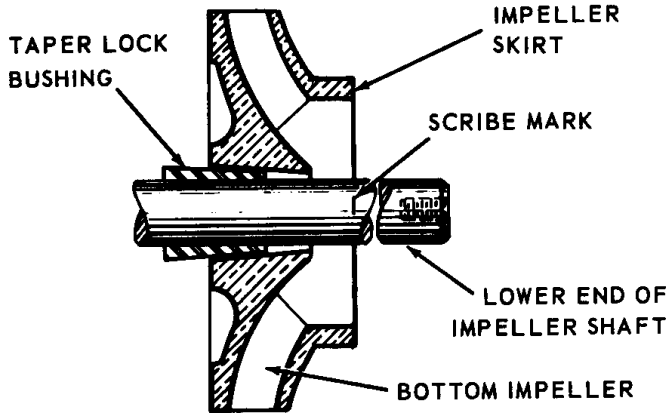
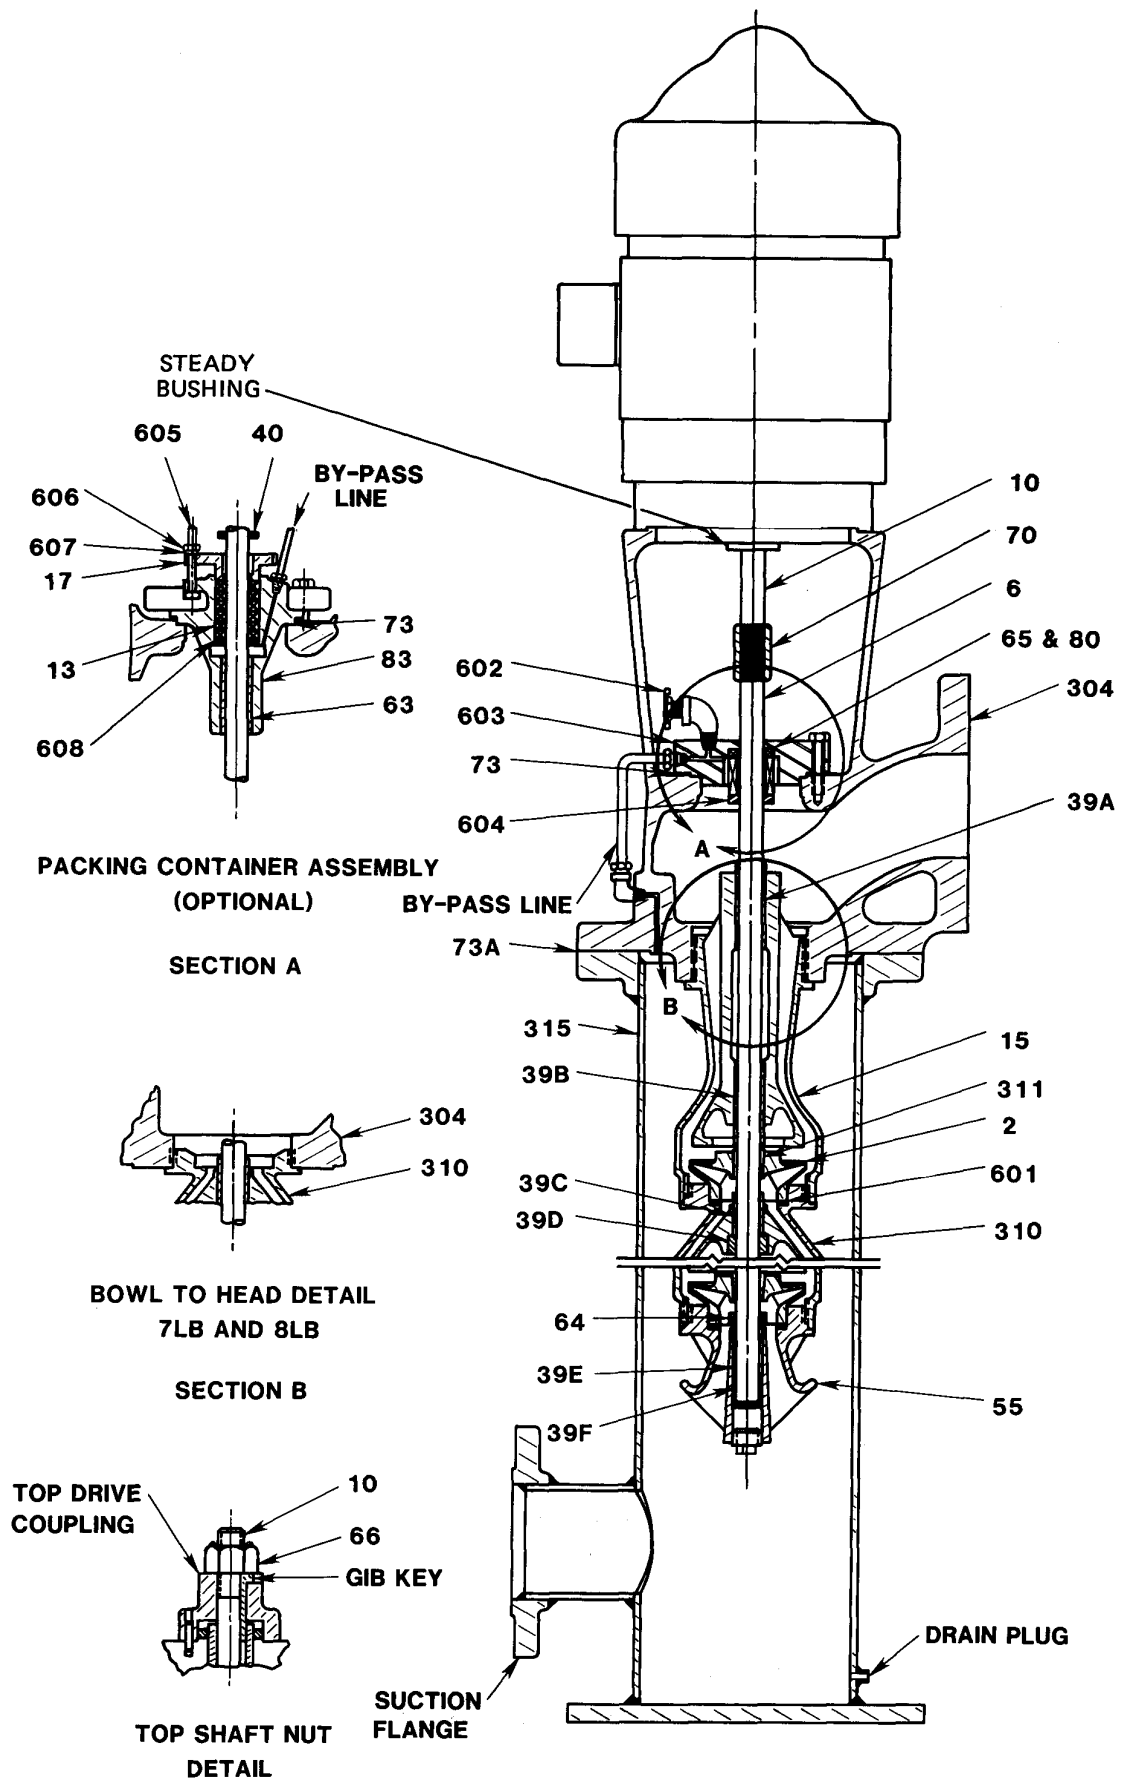

Figure 6. Location of Impeller
Figure 8 Pump Cross Section
2. Close the suction and discharge valves and remove the drain plug (Figure 8) from the can assembly (315).
4. Remove the locking screws. Take off the top nut (66), gib key and the top drive coupling.
5. Remove the top shaft (10) from the shaft coupling (70) by holding the coupling and turning the top shaft clockwise with pipe wrenches. Be careful not to bend the shaft.
8. If there is sufficient head room to remove the pump from the can assembly (315), unscrew the discharge head screws and bolts on the discharge flange and lift the pump assembly out of the can (315). If head room is not sufficient for this, remove the bolts from the suction flange and base of the can, and move the entire pump and can assembly to a suitable work area.
9. Unscrew shaft coupling (70) from the impeller shaft (6). As thread is left hand, turn clockwise to loosen.
10. VTP only: Remove the rubber deflector ring (40) packing gland (17) and packing (13). Disconnect and remove seal piping. Remove packing container (83) and gasket (73).
11. VTM only: Remove the four seal flange cap screws and lock washers and lift off the seal flange (603) with gasket (73) and stationary seal with o-rings intact. Carefully pull out the rotating seal head assembly.
12. Unbolt or unscrew the discharge head from the bowl assembly and remove the shaft squeeze collar (604) from the shaft above the top bowl (VTM pump only).
13. Unscrew the plug in the bottom of the suction manifold (55). Unscrew or unbolt the suction manifold from the bowl assembly. Chain tongs should be used for threaded manifolds.
14. Check the impeller shaft (6) near the impeller (2) for a scribe mark (see Figure 6). If the original scribe mark does not appear on the impeller shaft in the same plane as the lower face of the impeller skirt, scribe the shaft at this point. On reassembly, it is important that the impellers be remounted in the same position on the shaft as in the initial installation.
15. Tap the impeller taper lock bushing (Figure 6) out of the bottom impeller with a beater. The use of a beater to install a bushing is shown in Figure 4. Remove the impeller from the shaft.
1. Support the impeller shaft on a set of wood V blocks on a table or on the floor. Find the scribe mark on the shaft which locates the bottom impeller. If the shaft does not have a scribe mark, Table I may be used to locate the scribe mark (A).
2. Place a taper lock bushing (311), large end first, and then an impeller (2), large end first, onto the lower end (Figure 6) of the impeller shaft (6). Slide the impeller past the scribe mark and then back again until the impeller skirt face is in the same plane as the scribe mark. Hold the impeller in place while gently tapping the taper lock bushing into the impeller bore until snug. (See Figure 4).
26. Lower the top shaft (10) slowly down through the motor and install tightly into the shaft coupling (Left Hand thread.) Extreme care should be taken when lowering top shaft through motor, as 3600 RPM motors are furnished with a close tolerance steady bushing on the lower end of motor (Figure 8).